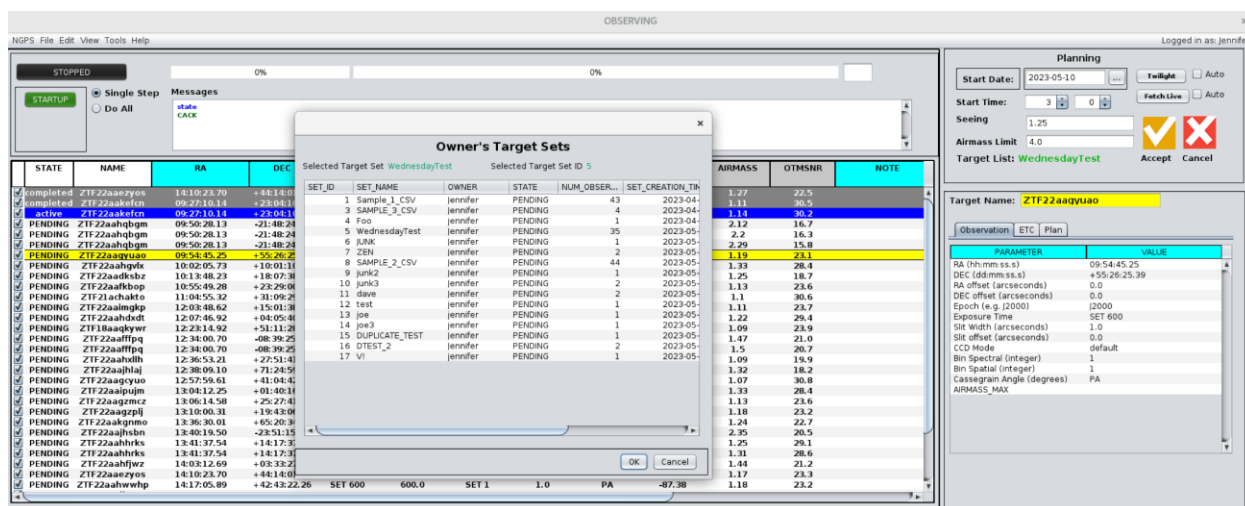

Figure 21 File>Open .... Selection Dialog
Clicking **Get Data** will cause the file selection dialog to close and a new popup window to appear, floating on top of the main observing display. This popup window (shown as blue in Figure 21) shows a table presentation of the raw CSV file which was just selected.
The CSV-table popup in Figure 21 has the title, "Import CSV: filename" and allows the user to check their CSV file for errors; it also allows editing. The table being edited here exists only in memory and is not committed to the database until the user clicks Import (more on this later). The name of the .CSV file is displayed at the top, along with the current action (i.e., "Import CSV: filename") and at the bottom a default database table name is pre-filled in the text box using the CSV filename without the CSV extension. The name can be edited. "**Cancel**" and "**Import**" buttons are displayed at the bottom of this window.
5. The popup dialog in Figure 21 closes and the user is presented with the main window again, but now the target table is filled in, as shown in Figure 22.